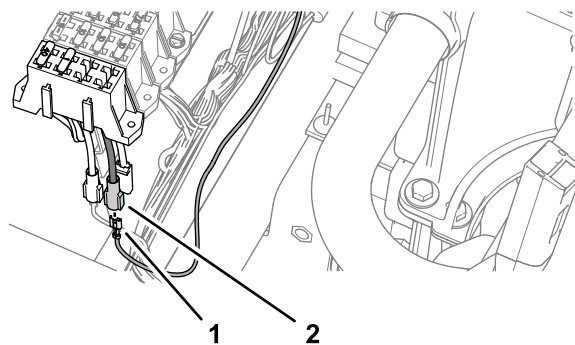

Figure 82
1. Plug the terminal of the modem power harness labeled SWITCHED into the socket connector for options power of the fuse block (Figure 82).